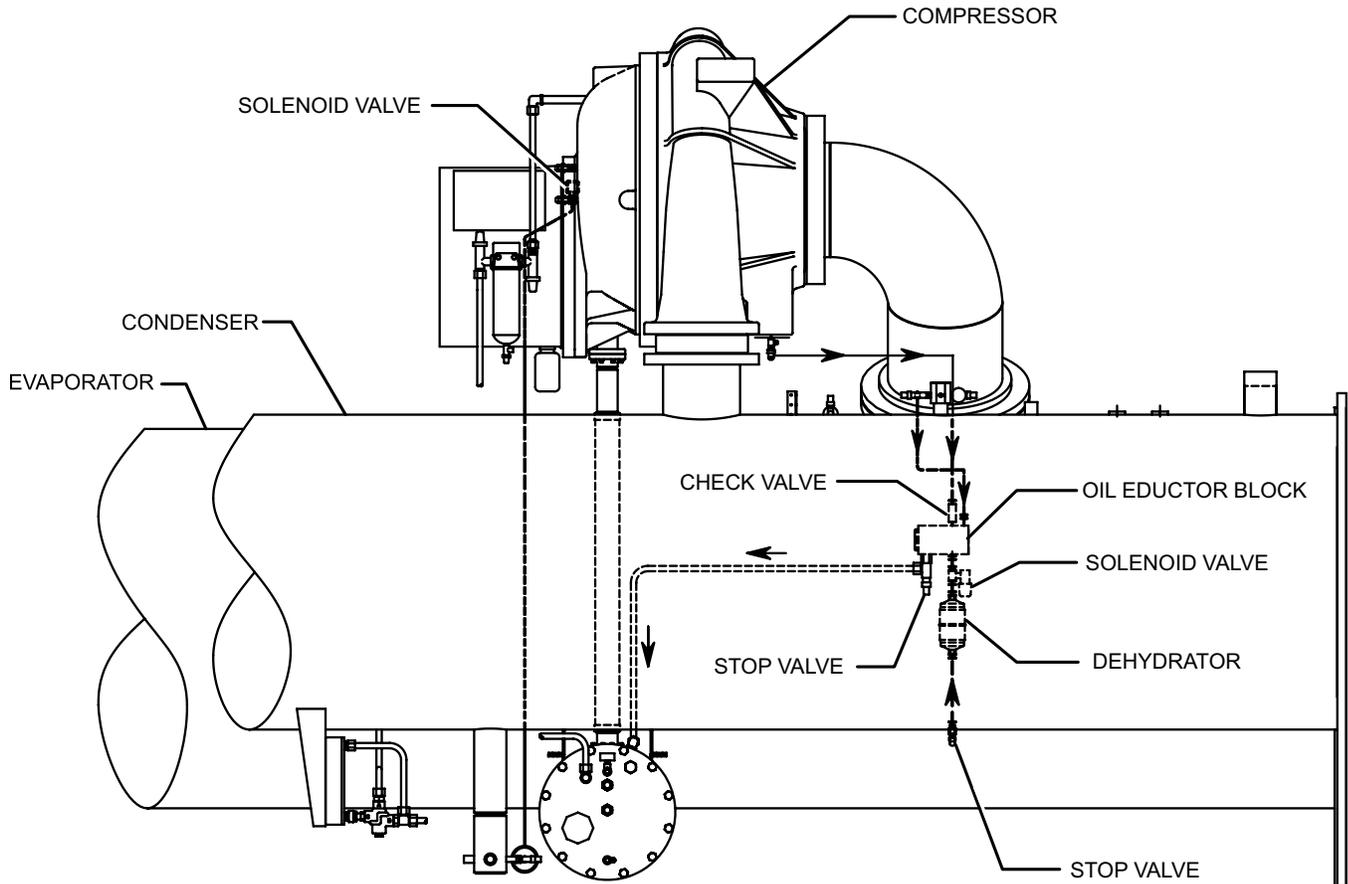

FIGURE 8 - OIL RETURN SYSTEM
The oil return system continuously maintains the proper oil level in the compressor oil sump (See *Figure 8 on Page 19*).
2. Remove the dehydrator (refer to *Figure 8 on Page 19*).
the pump discharge connection to the oil charging valve located on the remote oil reservoir cover plate (see *Figure 8 on Page 19*). Do not tighten the connection at the charging valve until after the air is forced out by pumping a few strokes of the oil pump. This fills the lines with oil and prevents air from being pumped into the system.